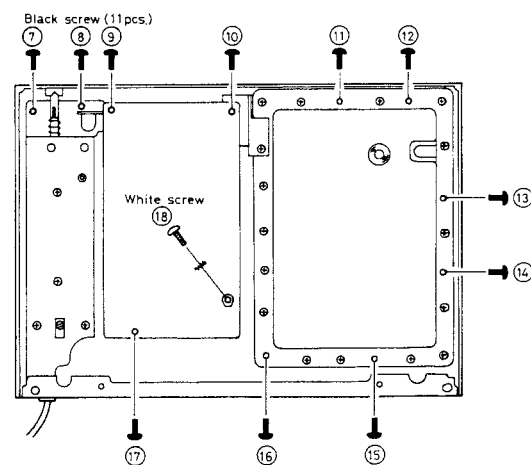

Fig. 8
3. Remove 2 setscrews (⑤ ~ ⑥ in Fig. 8) on the rear panel.
6. When installing, refer to Fig. 8 and pay attention to installing positions and screw sizes.
1. Remove 6 setscrews (⑪ ~ ⑯) shown in Fig. 8.